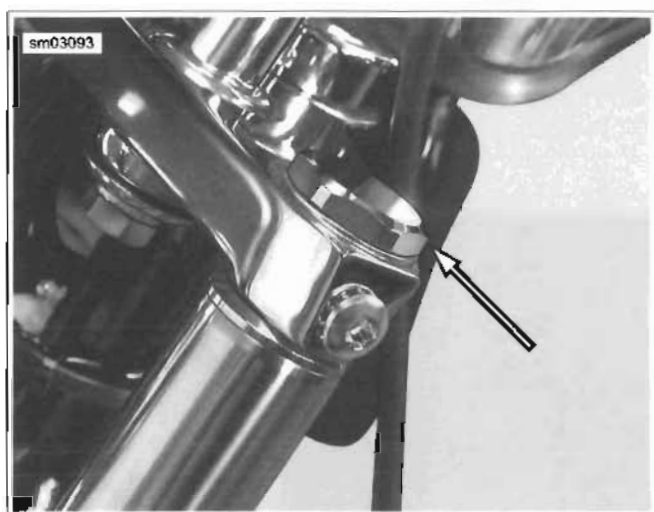

Figure 2-76. Fork Tube Cap
2. See Figure 2-76. Remove the fork tube caps.